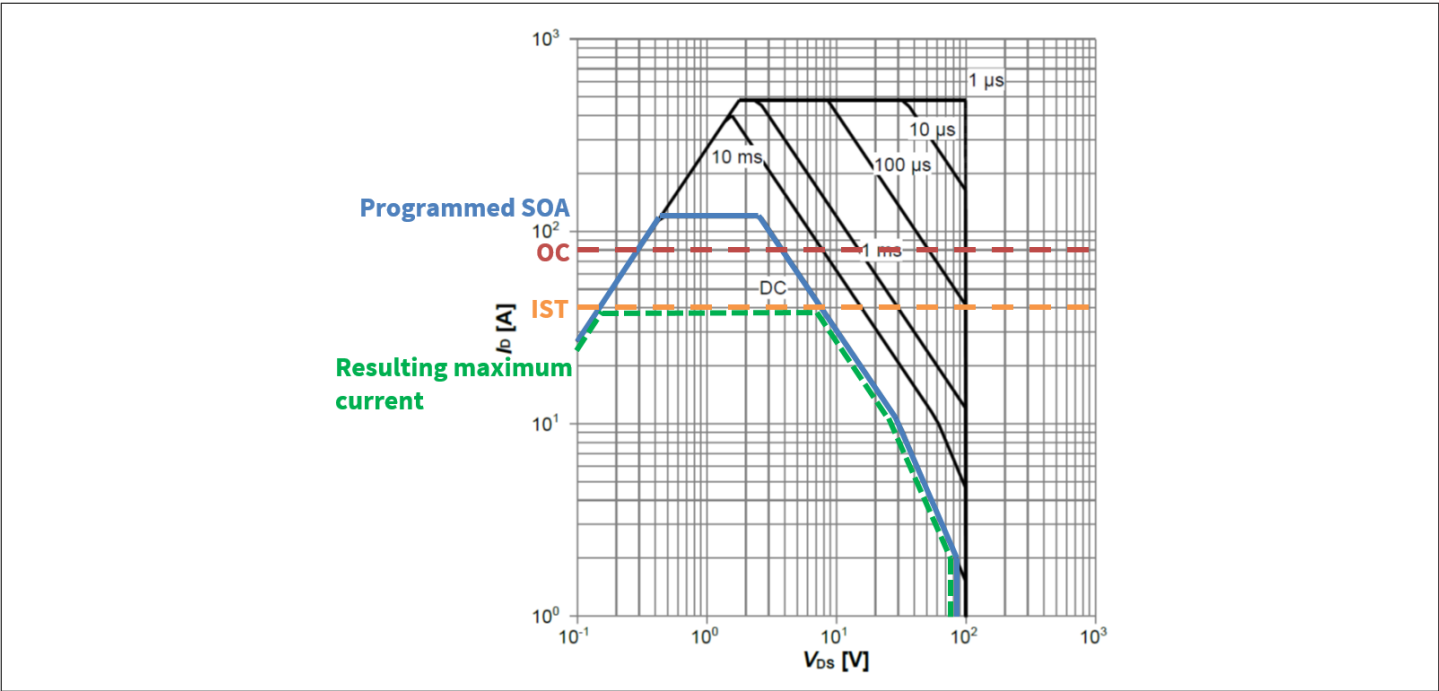

Figure 4 Safe operating area
- XDP711 starts charging the output capacitor by regulating the current through the FET according to the maximum allowed in the SOA. From Figure 4, the DC line allows an $I_{SOA} \cong 4.5$ A at 48 V.